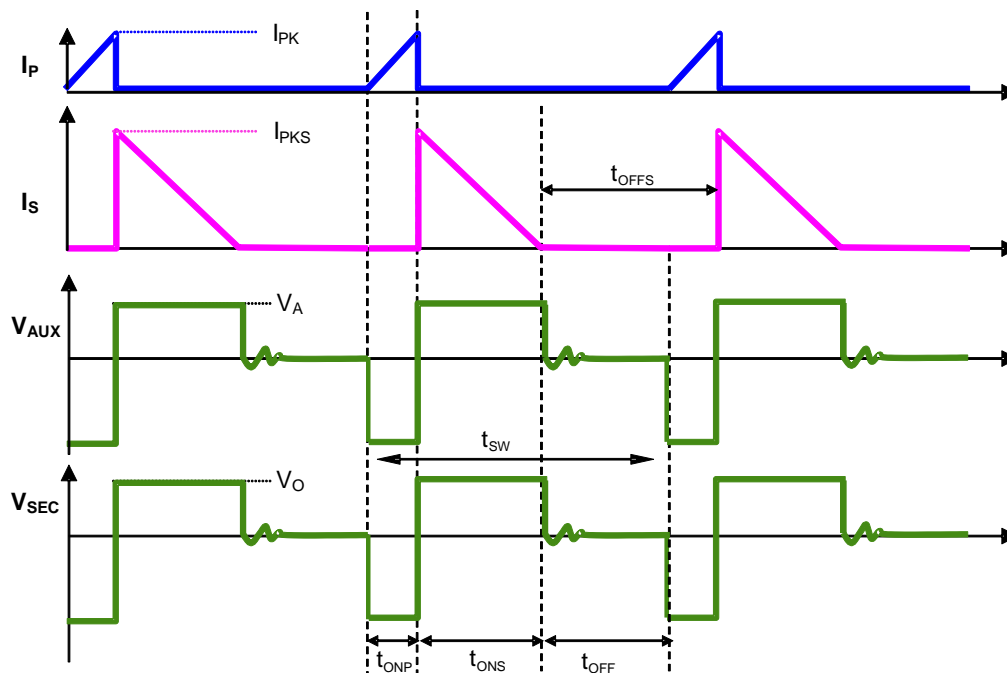

Figure 2. The Operation Waveform of Flyback PSR System
The AP3987CT can work in Constant Current (CC) mode. Figure 2 shows the secondary current waveforms.
As illustrated in Figure 2, when the current $i_p(t)$ rises up to I_{PK} , the switch Q1 turns off. The constant peak current is given by: